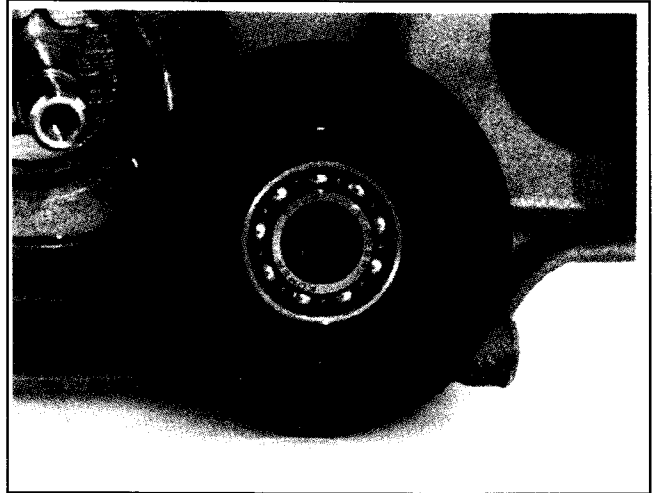

Figure 10-21. Cover With Bearing Installed.
4. If further disassembly is needed, press the inner ball bearing out of the cover and install a new one in its place. See Figure 10-21.